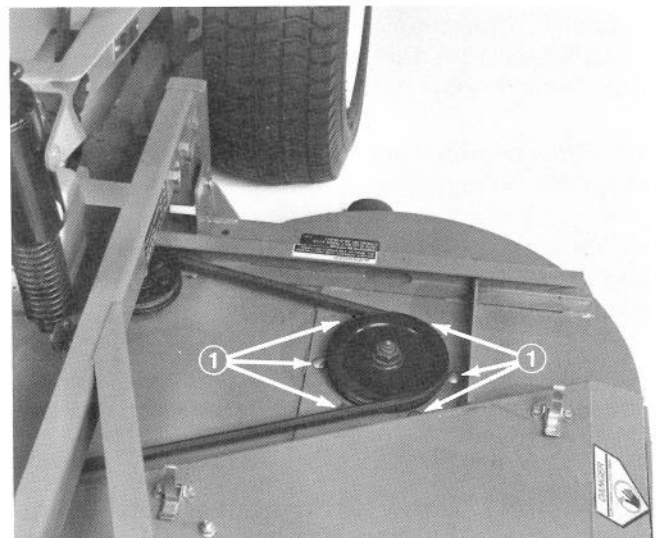

Figure 45
6. Remove six carriage bolts and flange nuts holding spindle housing assembly against cutting unit (Fig. 45). Slide spindle housing assembly out bottom of cutting unit.
8. Slide pulley end of spindle assembly through hole in cutting unit. Mount spindle assembly in place with six carriage bolts and flange nuts (Fig. 45).